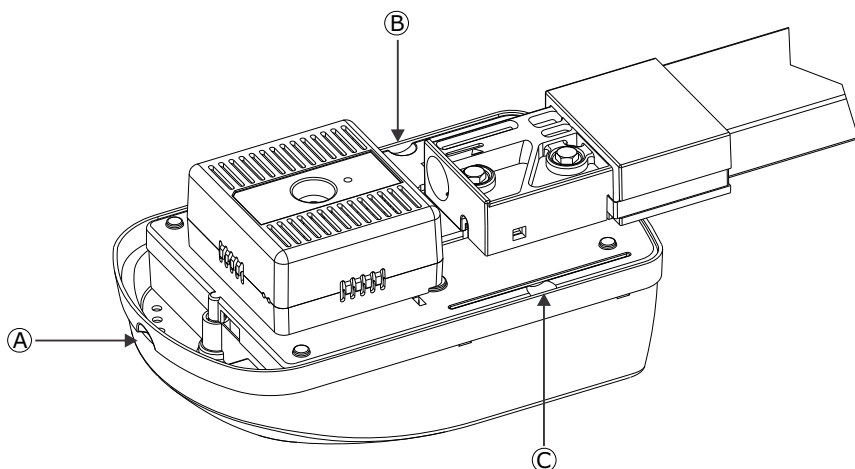

FIGURE 18. XTRAC CONTROL BOX
- In the event of prolonged power outage the **XTrac** will automatically shut down (when battery voltage drops below 23 volts) in order to conserve remaining voltage - LED Indicator (Figure.18-C) will extinguish and the **XTrac** will cease to function
- open the Courtesy Lamp cover by pulling it down at the finger recess point (Figure.18-A).
IV.remove the Control Box cover by pulling first outwards and then downwards at the finger recess points (Figure.18-B and C).
- The Dipswitches located on the Control Board (Figure.18) enable or disable specific functionality
- hinge open the Courtesy Lamp Cover to expose the 'Learn' Button (Figure.18)
- momentarily press the 'Learn' Button (Figure.18-D) - LED Indicator (Figure.18-C) will flash slowly